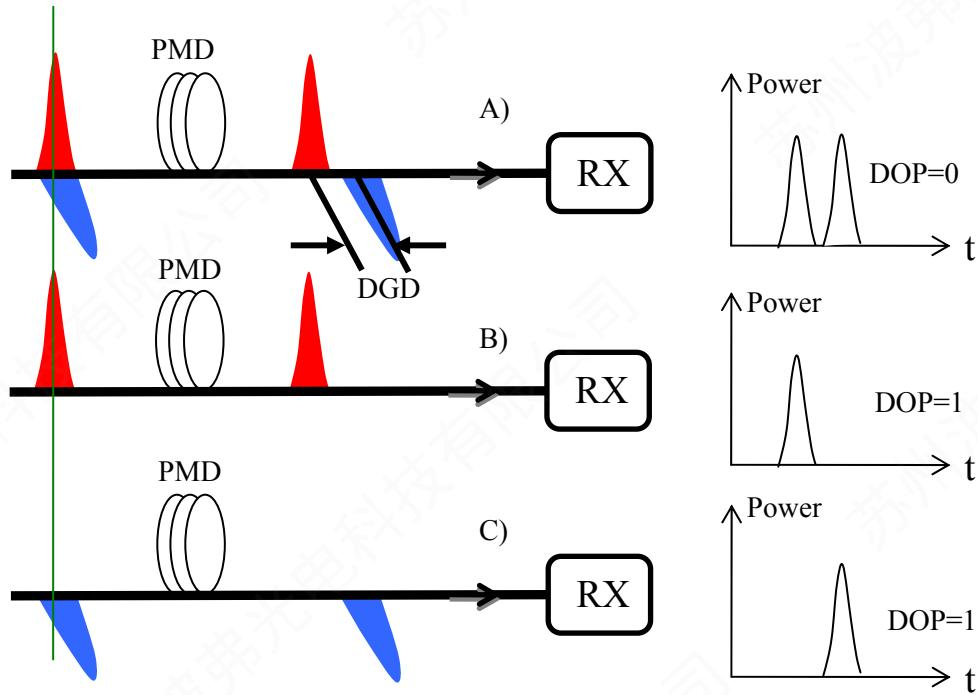

Figure 29 Illustrations of the PMD effect on an optical signal.
**Importance of polarization optimization:** The PMD effect on a system is highly polarization dependent. When the input state of polarization (SOP) is aligned or counter-aligned with the principal state of polarization (PSP) of the fiber link or the PMD source, the PMD has no effect on the signal, and therefore no effect on system performance, as shown in Figure 29. By contrast, when the input SOP is aligned 45 degrees from the PSP of the fiber link or PMD source, the PMD has its maximum effect on the transmitted optical signal, and hence its worst-case effect on system performance. The effect of PMD on data can be characterized by the degree of polarization (DOP) of the optical signal, because PMD causes depolarization of the optical signal, as shown in Figure 29: the smaller the DOP, the larger the PMD effect. In general, the DOP of the signal passing through a medium with nonzero 1st order PMD can be expressed as: